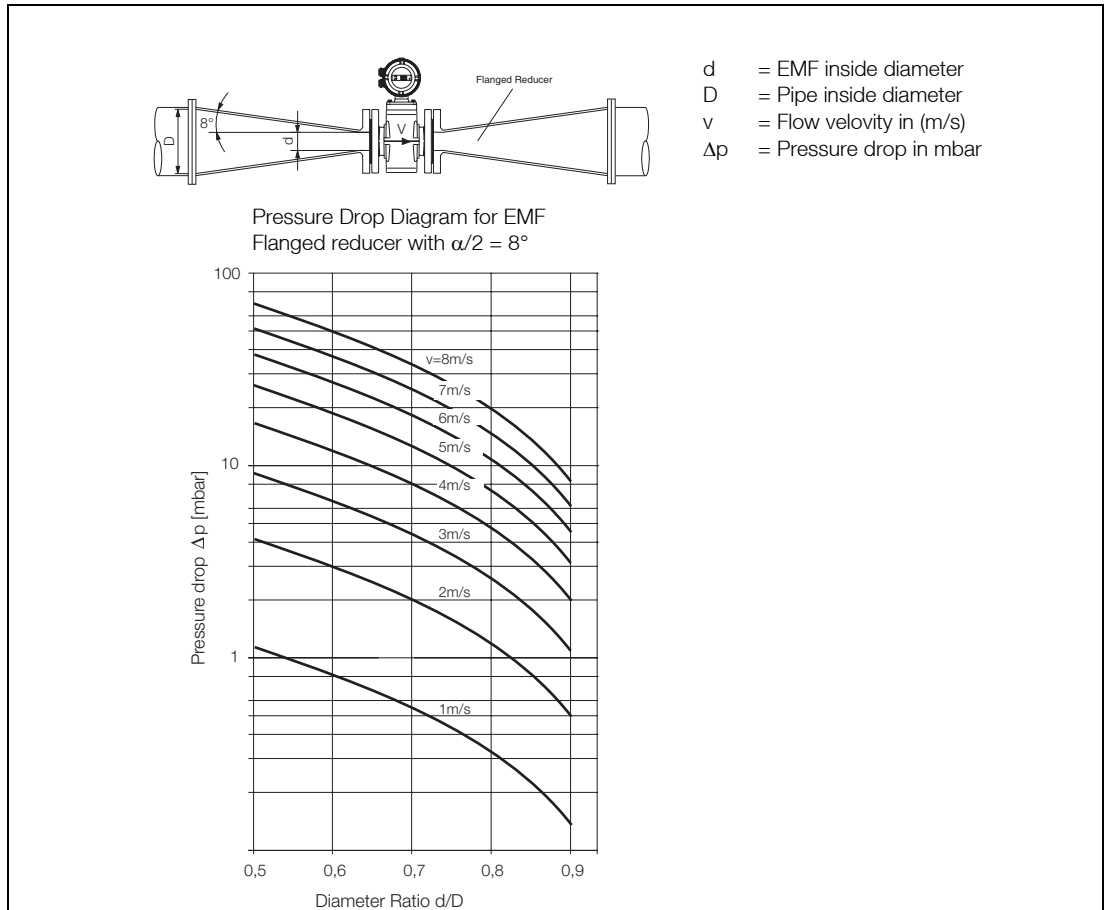

Fig. 12: Nomograph for Pressure Drop Determinations
The flowmeter can readily be installed in larger size pipe lines through the use of flanged transition sections (e.g. Flanged Reducers). The pressure drop resulting from the reduction can be determined from the Nomograph Fig. 12. The pressure drop can be determined using the following procedure:
3. The pressure drop can be read on the -Y- axis at the intersection of the "Flow Velocity" curve and the "Diameter Ratio d/D " value on -X- axis in Fig. 12.